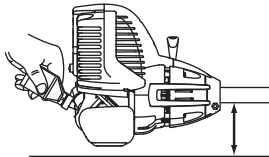

Fig. 5
- Place the unit on a flat level surface (Fig. 5).
- Pour the entire bottle of oil into the oil fill hole (Fig. 5).